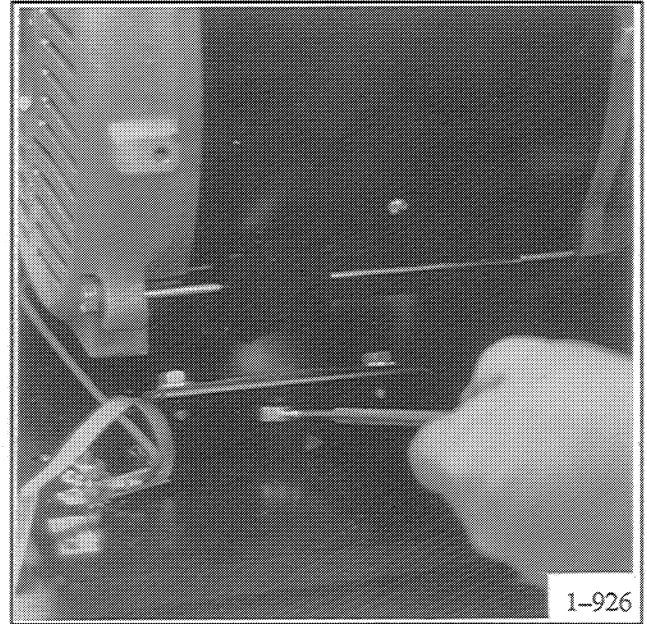

Figure 8-16. Removing Vibromount Bolts
20. Remove two bolts on vibromounts at stator assembly using 9/16 in. socket wrench. See Figure 8-16.